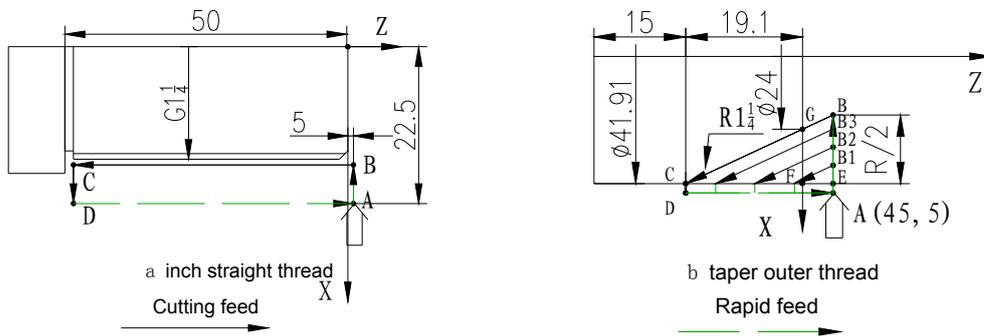

Fig. 4-28
5) Compound example: as Fig. 4-28
Example 1: Metric straight thread as Fig. 4-28 a. ($G1 \frac{1}{4}$: 11 teeth, $D=41.910$, $D2=40.431$,
Example 2: Outer taper thread as Fig. 4-28 b ($R1 \frac{1}{4}$: $D=41.910$, $D2=40.431$, $D1=28.952$, $P=2.309$, the